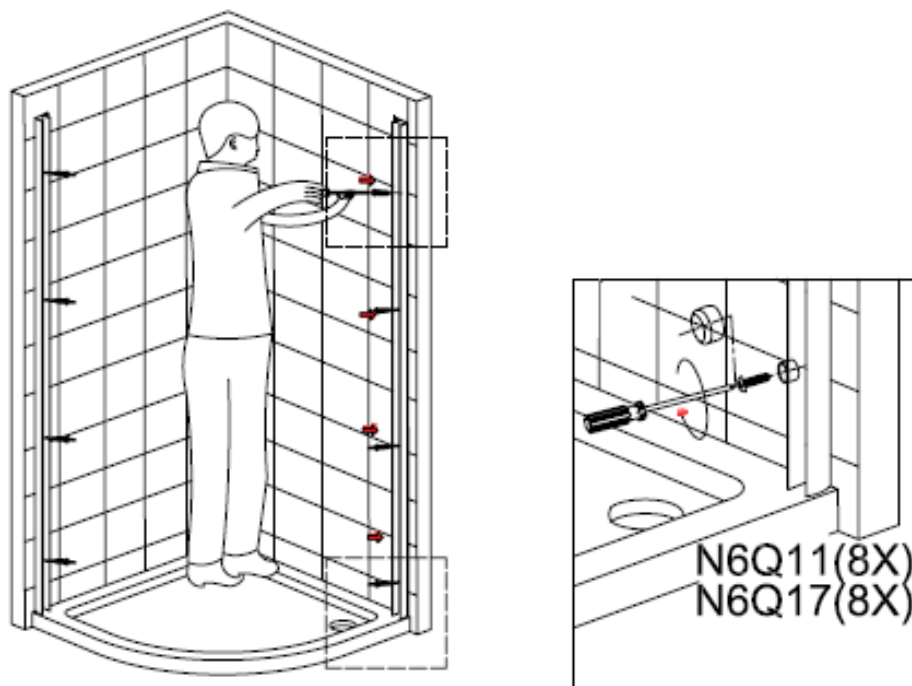

Figure 3
3. Make sure that the frame is horizontal and vertical, screw the wall profile(N6Q1) to the wall by using screw(N6Q11),as showed in figure 3.